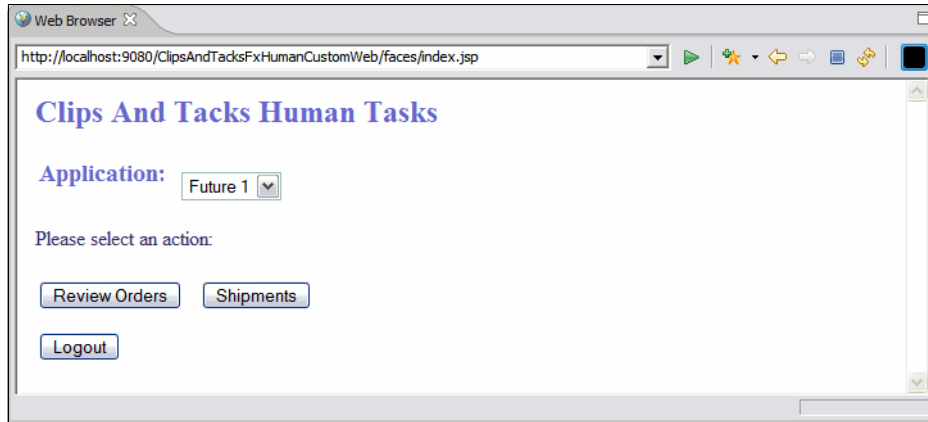

Figure 10-73 Human task application: Home
- ▶ The human task application starts with the home page (Figure 10-73).